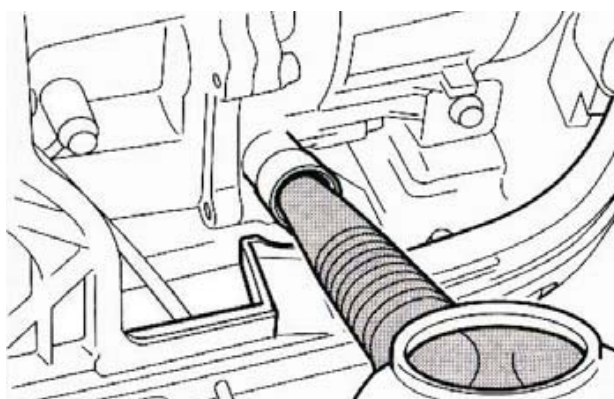
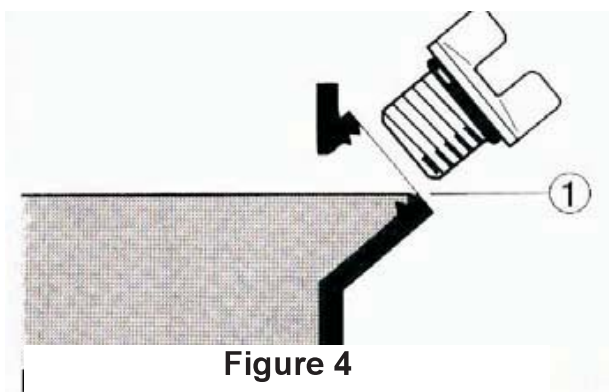

Figure 3
Figure 4
Using the funnel (provided) fill with 0.42 quart of SAE 10W-30 or 10W-40 (provided) (see figure 3). See figure 4 for proper oil level ①.